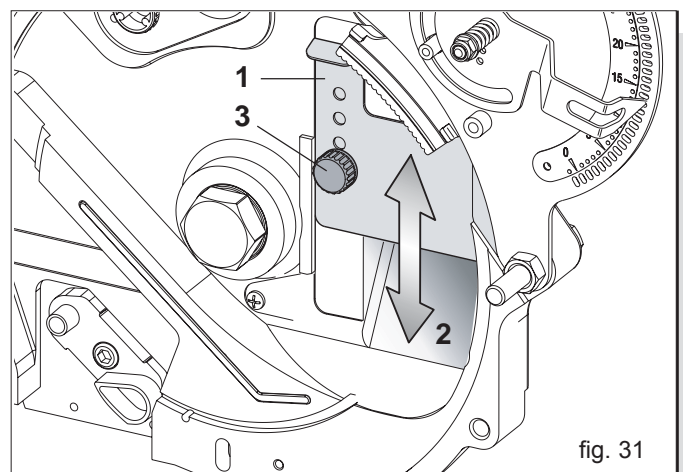

fig. 31
The anti-overflow plate (1 Fig. 31) can be adjusted to 5 positions and defines the width of the seed inlet gap (2 Fig. 31), so that these cannot flow out of the distributor due to excessive feeding. Adjustment is particularly needed when the ground slopes steeply or when working with small seeds.
N.B.: Ensure that the knob (3, Fig. 31) has been well-tightened.